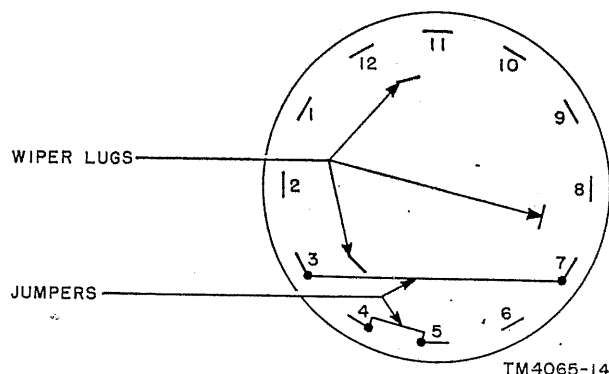

Figure 27. Rear view of terminal locations of power switch S1.
(1) With the POWER switch at OFF, measure the resistance between pins B, F, and J of connector J5 (fig. 27) and chassis ground. Any reading below infinity indicates a defective switch (or connector J5).
(2) With the POWER switch at OFF, measure the resistance between each of terminals 2, 3, 6, 7, 10, 11, and 12 of POWER switch S1 (fig. 27) and chassis ground. Any reading below infinity indicates a defective switch (or connector J5).